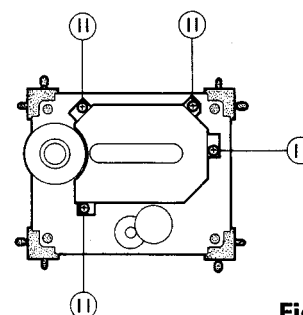
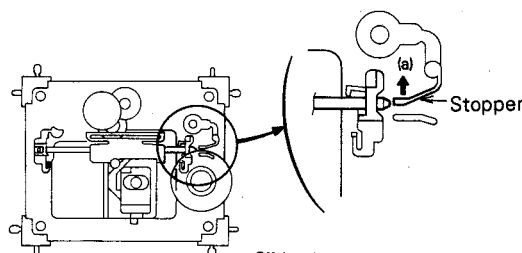

Fig. 2-8
Fig. 2-9
■ **Replacement of pickup** (Fig. 2-8, Fig. 2-9)
1. Remove four screws (11) retaining the pickup cover.